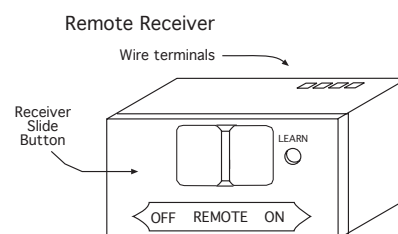

Fig. 13 Remote receiver.
- With the slide button in the ON position (towards the LEARN button), the system will remain ON until the slide switch is placed in the OFF or REMOTE position. See Fig. 13.
3. Check the black slide switch on the receiver. The switch should be in the REMOTE position. See Fig. 13.
4. Check the (4) batteries in the receiver. The total voltage of all (4) batteries should not be less than 5.3 volts.